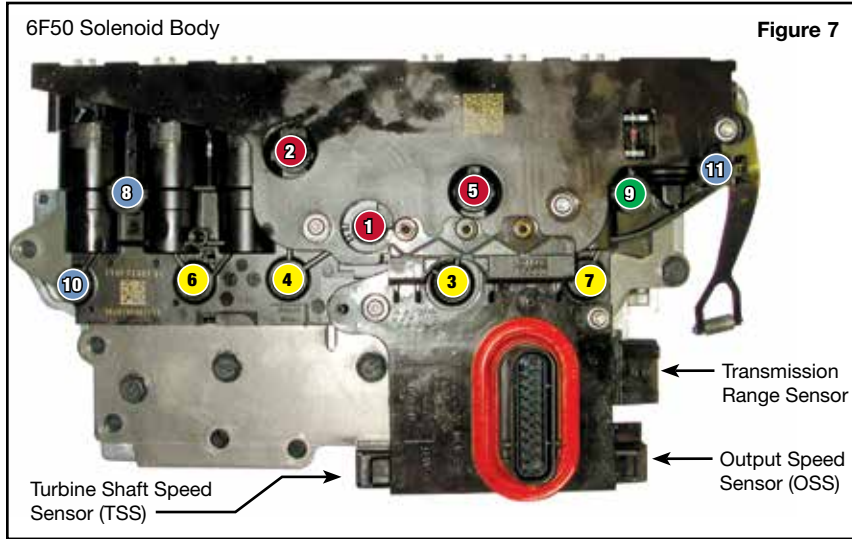

Figure 7
**1. Valve Body Removal from Case (Figure 7)**
- c. Install solenoid body and secure with 11 bolts (Figure 7). Hand tighten, then tighten in the sequence shown to 106 lb-in.